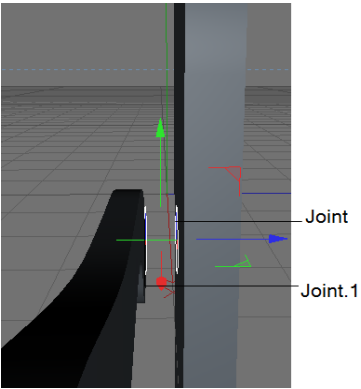

Figure 2-22 The position of *Joint* and *Joint.1* displayed in the Perspective viewport
10. Make sure that *Joint.1* is selected in the Object Manager. In the Attribute Manager, make sure that the **Coordinates** area is displayed and enter **-24.05** in the **P . Z** spinner. Figure 2-22 shows the position of *Joint* and *Joint.1* in the Perspective viewport.